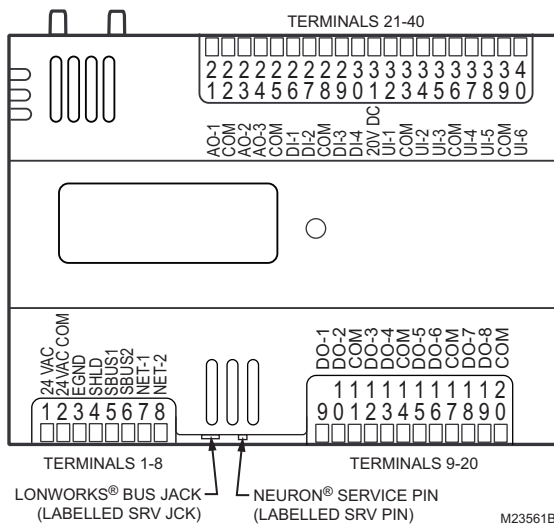
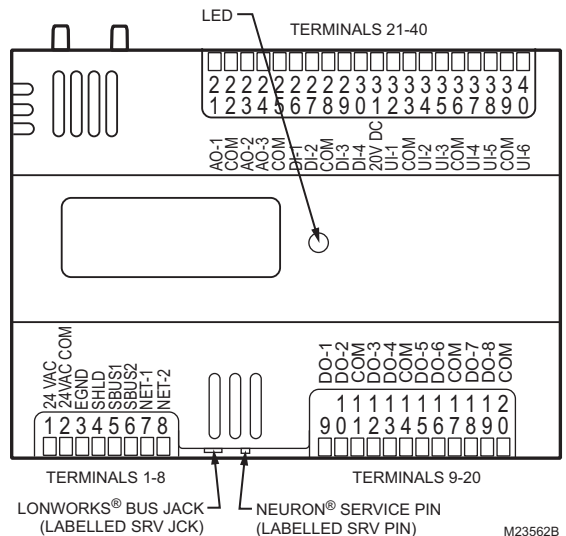

Fig. 16. Controller Terminal Connections, NEURON® Service Pin, & LONWORKS® Bus Jack for the PUL6438S, PVL6436AS, and PVL6438NS (PVL6438NS shown).
Fig. 25. LED, service pin, and network connection locations.
All controllers have the terminal arrangements similar to the examples shown in Fig. 16 and Fig. 17 as described in Table Table 6 on page 13 and Table 7 on this page.
The NEURON® Service Pin pushbutton (when pressed) transmits the Service Message to the network, regardless of the controller's current mode of operation (see Fig. 16 and Fig. 17).
The LONWORKS Bus connection is provided by plugging the Serial LONTALK® Adapter (SLTA) connector into the LONWORKS® Bus Jack (see Fig. 16 and Fig. 17).
Refer to Fig. 25 and the following text for startup information.
- To send the Service Message from the controller, press the NEURON® Service Pin pushbutton on the controller (see Fig. 25 above, and Fig. 16 and Fig. 17 on page 14). This button sends out the Service Message when it is pressed, regardless of the controller's current mode of operation.